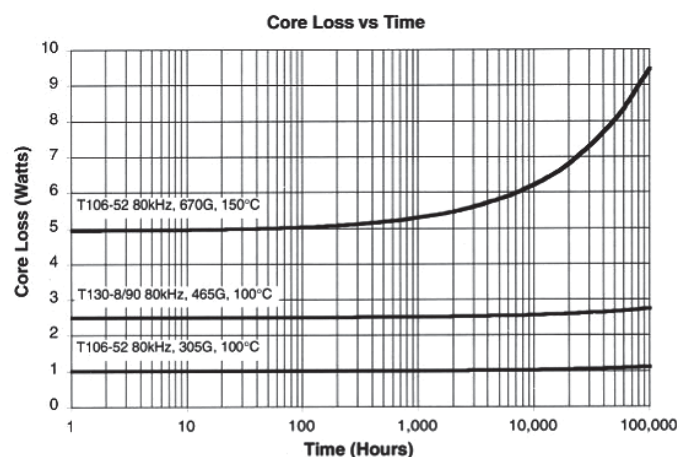

Figure 1
The upper curve in Figure 1 illustrates how quickly the projected core loss increases due to the excessive operating temperature. It should be obvious the surface area of this design is much too small to safely dissipate the excessive core loss in spite of air flow. Pages 64 and 65 show the "Total Power Dissipation (W) Vs Temperature Rise" for various sized Micrometals cores. These tables are useful to quickly determine if the design is capable of meeting a 40°C or less temperature rise.
The middle curve in Figure 1 illustrates the smallest physical core size that meets the design requirements and has a temperature rise of less than 40°C. This core is part
The lower curve of Figure 1 shows part number T106-52 used under similar conditions to the first design except now the dc output voltage is 5 V instead of 12.3 V. With 14 turns of AWG-12 wire, the peak AC flux density has decreased to 305 G and core loss to 1.0 W. The combined core and copper losses are 2.04 W for a temperature rise of 33°C. This design will safely operate at 100°C total temperature for more than 100,000 hours.